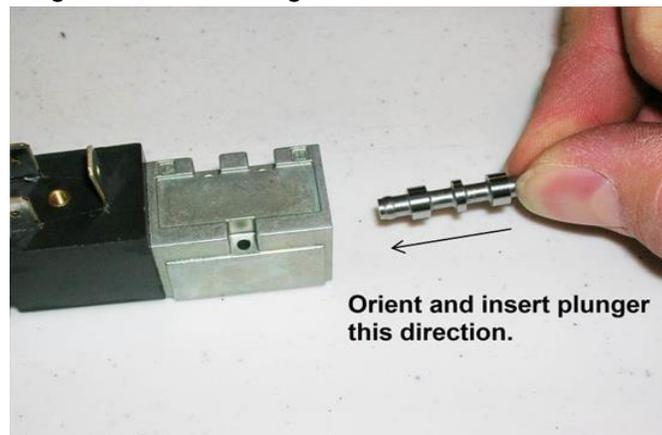

Figure 5-4: Solenoid Plunger
6. Orient and insert the plunger as shown in Figure 5-4.